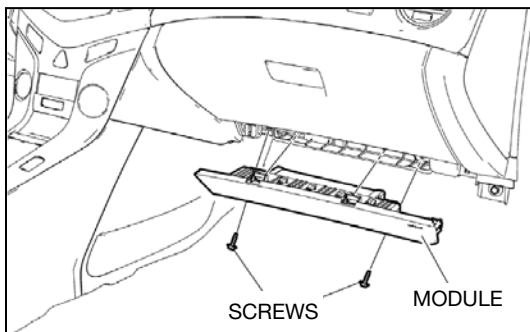

Fig. 8
2. Remove lower inflatable restraint panel to instrument panel attaching screws and module (see Fig. 8).